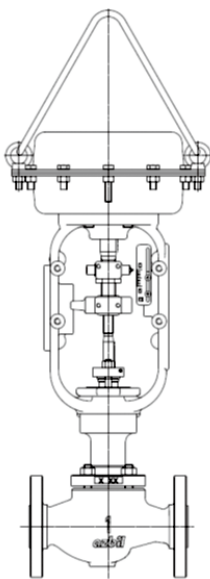

Figure 2-1.
- (1) The specifications printed on the name plate are appropriate for the use.
- (2) There is no damage to the control valve (valve body, actuator, auxiliary equipment, etc.).
- (3) There is no damage to the flanges.
- (4) Eyebolts for hoisting are attached to the actuator. If the eyebolts are used to hoist the control valve, make sure that the weight including accessories does not exceed the limit specified in Table 2-1 and Table 2-2.
- (5) If the eyebolts are used to hoist the control valve, the degree between the actuator and the wire rope must be 60° or more. (Refer to Figure 2-1).